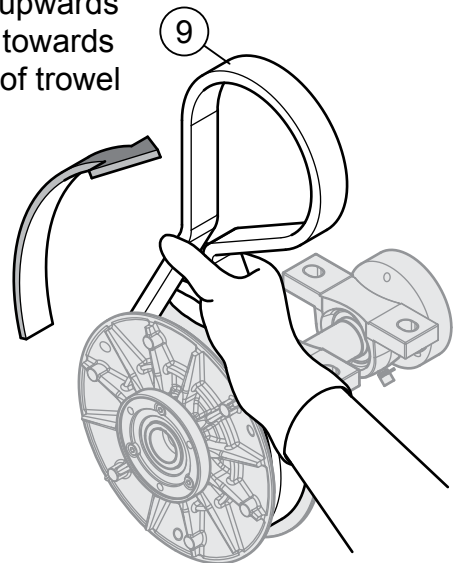

Figure 14. Hold Lower Pulley Open
2. See Figure 14. With the CVT belt (item 9) placed over the lower pulley, squeeze the belt and pull upwards and towards the rear of the trowel. This will spread open the faces of the lower drive pulley.